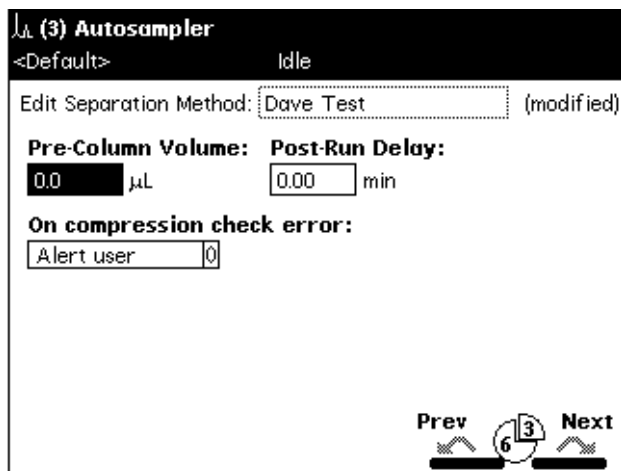

Figure 6-6 Autosampler Screen
1. Press the **Next** or **Prev** screen key (as appropriate) to display the Autosampler screen (Figure 6-6).